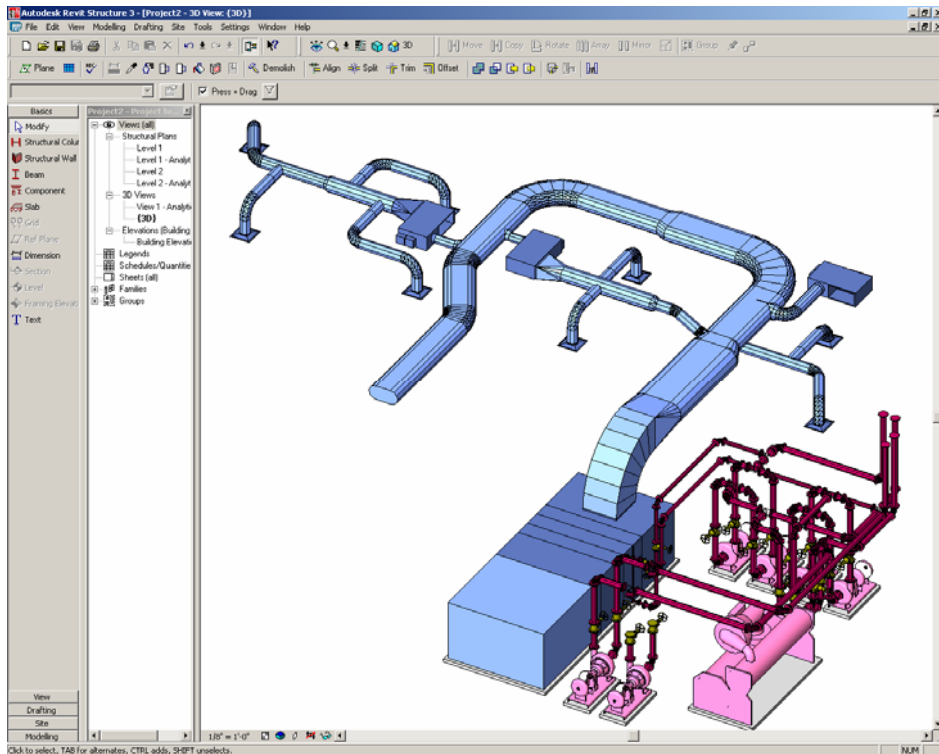

Figure 19
- The 3D view updates - the 2D representation is turned off, leaving only the 3D representation visible (see Figure 19).